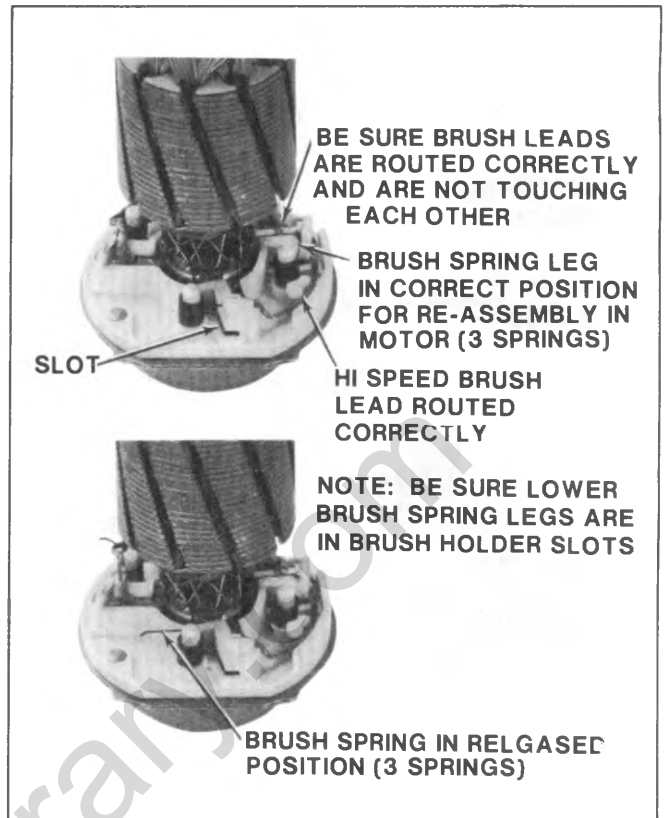

Fig. 8-14--Brush Spring--Brush Spring-Released Position
2. Assemble armature in end cap assembly and reposition brush spring legs behind their respective tabs, figure 8-14.